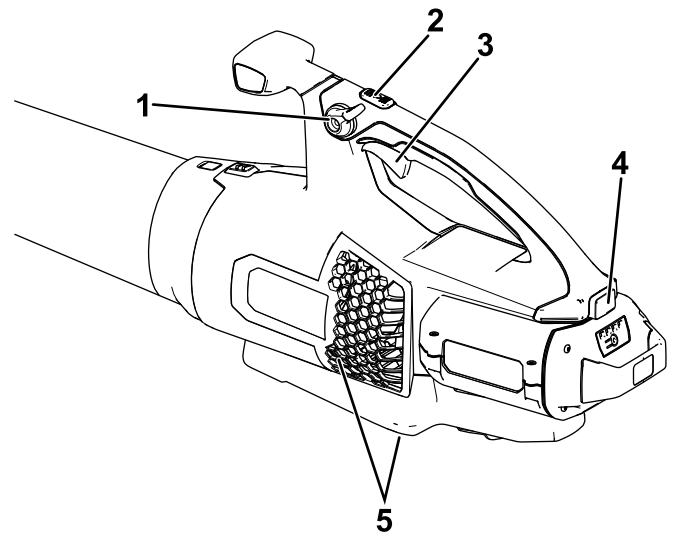

Figure 3
4. To start the blower, squeeze the variable-speed trigger (Figure 3).
Note: Engage the speed lock to keep the machine on without pressing the variable-speed trigger (Figure 3).
To achieve maximum performance (air speed), fully depress the variable-speed trigger, then press and hold the turbo boost button for the desired amount of time (Figure 3).
To adjust the air speed as you blow, use the variable-speed trigger (Figure 3).
To maintain the current air speed, engage the speed lock (Figure 3).
To shut off the blower, disengage the speed lock (if in use) and release the variable-speed trigger (Figure 3).